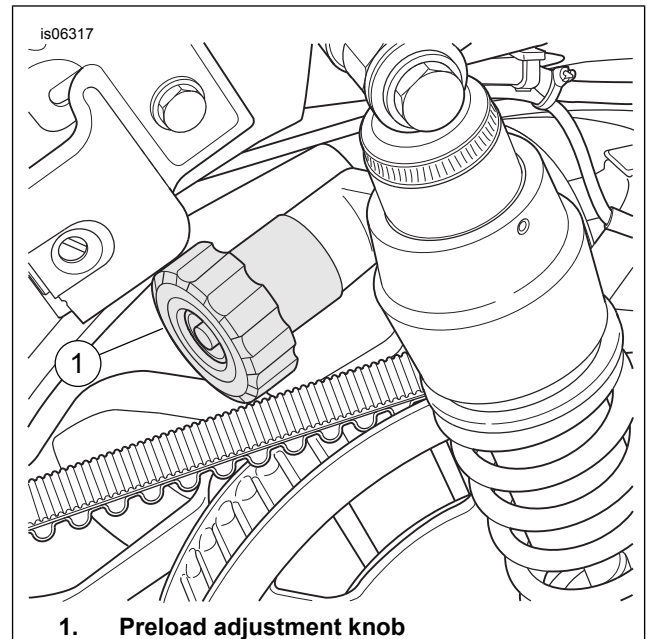
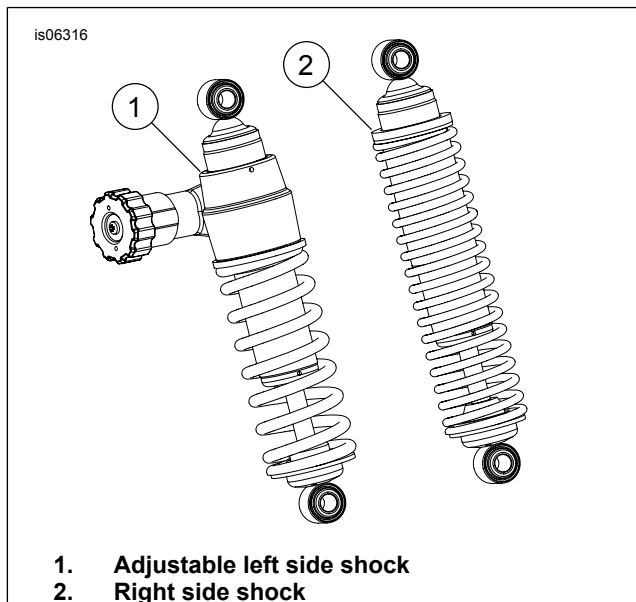

Figure 2. Preload Adjustment Knob
Figure 3. Adjustable Touring Shock Kit
- See Figure 3. Install the shock absorber (1) on the left side of the vehicle with the preload adjustment knob toward the front of the motorcycle, as shown in Figure 2, and start the bolt into the swingarm mount.
- Repeat steps 3, 5 and 6 for the right side shock absorber, oriented as shown in Figure 3.
- See Figure 2. Rotate the preload adjustment knob counterclockwise until it stops. This is the minimum preload position.